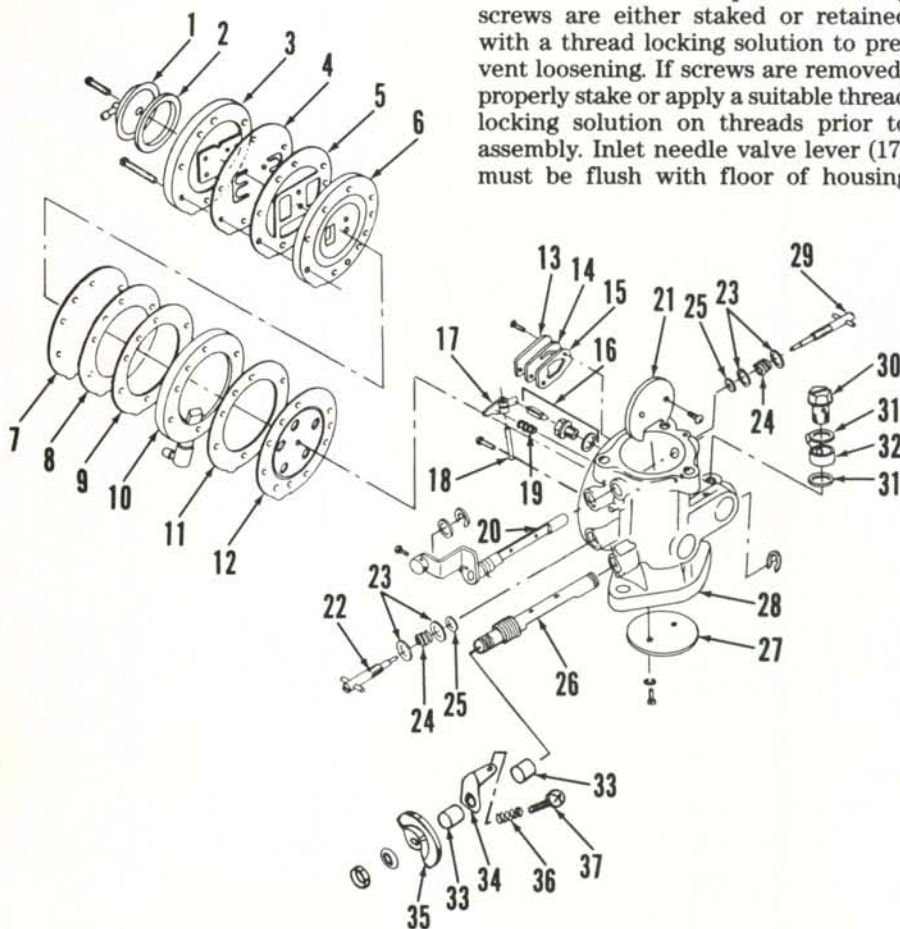

Fig. JS1-5—Exploded view of Mikuni type BN34 diaphragm carburetor used on all models.
CARBURETOR. Refer to Fig. JS1-5 for an exploded view of Mikuni type BN34 diaphragm carburetor used on all models. (On JS300 models, choke plate (21—Fig. JS1-5) is actuated by choke knob (K—Fig. JS1-6) on control panel via a cable and linkage. On JS300SX models, choke plate (21—Fig. JS1-5) is actuated by choke knob (K—Fig. JS1-7) on left side of riding platform via a cable and linkage.
Initial setting of low speed mixture needle (22—Fig. JS1-5) is 5/8 turn out from a lightly seated position on JS300 models and 1-9/16 turns out from a lightly seated position on JS300SX models. Initial setting of high speed mixture needle (29) is 1 turn out from a lightly seated position on JS300 models and 1-1/4 turns out from a lightly seated position on JS300SX models. Final carburetor adjustments must be made with
Make sure cooling system will receive an adequate supply of water, then operate and sustain engine at wide-open throttle for a suitable test period. Stop the engine with throttle in wide-open position. Remove spark plug and note insulator tip color. Normal insulator tip color is brown to light tan. If insulator tip appears to be light tan to white in color, then mixture is too lean and high speed mixture needle (29—Fig. JS1-5) should be rotated outward (counterclockwise) 1/4 turn to richen mixture. If insulator tip appears to be dark brown to black in color, then mixture is too rich and high speed mixture needle (29) should be rotated inward (clockwise) 1/4 turn to lean mixture. Clean, regap and reinstall spark
With reference to Fig. JS1-5, disassemble the fuel pump assembly. Inspect all components for excessive wear or any other damage and renew if needed. Clean components as needed with a suitable cleaning solution. Blow dry with clean compressed air. If compressed air is not available, use only lint-free cloths to wipe dry. Make sure all passages are clear of any obstructions.
With reference to Fig. JS1-5, reassemble the fuel pump assembly with new gaskets. Securely tighten the six through-bolts.